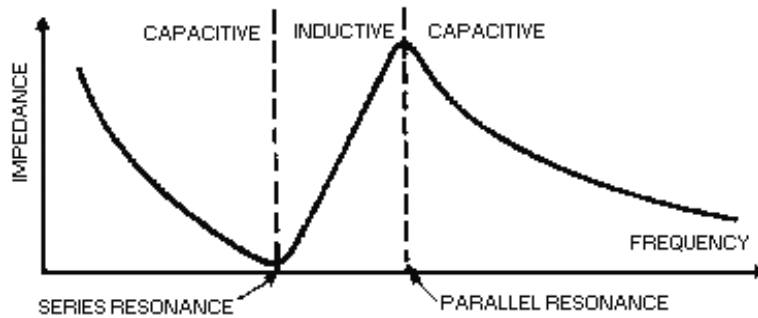

Figure 2-21.—Frequency response of a crystal.
At some frequency, the reactances of equivalent capacitor C1 and inductor L will be equal and the crystal will act as a series-tuned circuit. A series-tuned circuit has a minimum impedance at resonance (figure 2-21). Above resonance the series-tuned circuit acts **INDUCTIVELY**, and below resonance it acts **CAPACITIVELY**. In other words, the crystal unit has its lowest impedance at the series-resonance frequency. The impedance increases as the frequency is lowered because the unit acts as a capacitor. The impedance of the crystal unit also increases as the frequency is raised above the series-resonant point because the unit acts as an inductor. Therefore, the crystal unit reacts as a series-tuned circuit.
Since the series-tuned circuit acts as an inductor above the resonant point, the crystal unit becomes equivalent to an inductor and is parallel with the equivalent capacitor C1 (view (B) of figure 2-20). At some frequency above the series-resonant point, the crystal unit will act as a parallel-tuned circuit. A parallel-tuned circuit has a MAXIMUM impedance at the parallel-resonant frequency and acts inductively below parallel resonance (figure 2-21). Therefore, at some frequency, depending upon the cut of the crystal, the crystal unit will act as a parallel-tuned circuit.